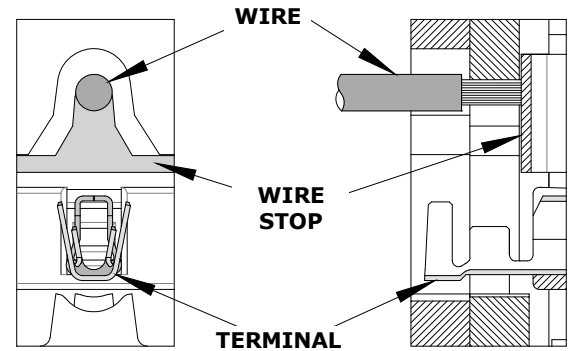

Figure 7
10. On some large O.D. wires, it may not be possible to insert the wire with the tool partially closed. Those wires should be inserted with the hand tool in the open position. Insert the wire above the terminal in the punch and against the wire stop, and then close the tool. See Figure 7.